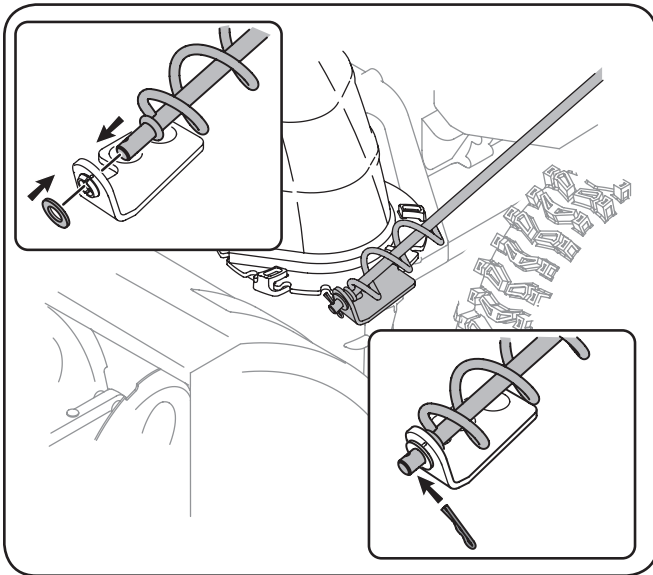

Figure 3-5
- Remove the plastic cap (if present), flat washer and hairpin clip from the end of the chute directional control. See Figure 3-5.